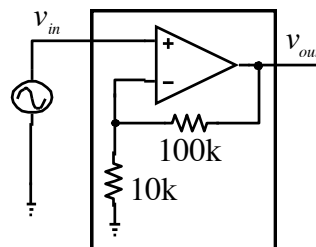

Figure 1.12: Non-inverting amplifier ($A = 11$).
1. Build a non-inverting amplifier with a gain A of 11, as shown in Figure 1.12. Apply a 10 kHz sine wave that is roughly 0.5 V_{peak-peak} at the input of the amplifier and make sure you obtain V_{out} of same shape but with an amplitude of 5.5 V_{peak-peak}. (Rule of thumb: when making small-signal measurements, we want the output voltage swing to be less than 20% of the maximum output voltage swing)